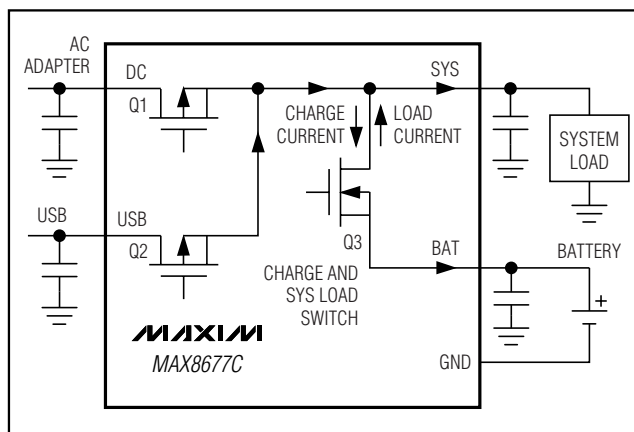

Figure 4. Smart Power Selector Block Diagram
The MAX8677C Smart Power Selector seamlessly distributes power between the external inputs, the battery, and the system load (Figure 4). The basic functions performed are:
An internal 40mΩ MOSFET connects SYS to BAT (Q3, Figure 4) when no voltage source is available at DC or USB. When an external source is detected at DC or USB, this switch is opened and SYS is powered from the valid input source through the input limiter.
The input voltage limiter is essentially an LDO regulator. While in dropout, the regulator dissipates a small I^2R loss through the 0.2Ω MOSFET (Q1, Figure 4) between DC and SYS. With an AC adapter or USB source connected, the input limiter distributes power from the external power source to the system load and battery charger. In addition to the input limiter's primary function of passing power to the system and charger loads at SYS, it performs several additional functions to optimize use of available power:
- **Input Voltage Limiting.** If an input voltage is above the overvoltage threshold (6.9V typ), the MAX8677C enters overvoltage lockout (OVLO). OVLO protects the MAX8677C and downstream circuitry from high-voltage stress up to 14V at DC and 8V at USB. In OVLO, VL remains on, the input switch that sees overvoltage (Q1, Q3, Figure 4) opens, and the appropriate power-monitor output (\overline{DOK} , \overline{UOK}) is high impedance, and \overline{CHG} is high impedance.
If both DC and USB see overvoltage, both input switches (Q1 and Q2, Figure 4) open and the charger turns off. The BAT-SYS switch (Q3, Figure 4) closes, allowing the battery to power SYS.
An input is also invalid if it is less than BAT, or less than the DC undervoltage threshold of 3.5V (falling). With an invalid input voltage, SYS connects to BAT through a $40m\Omega$ switch (Q3, Figure 4).
The total current through the switch (Q1 or Q2 in Figure 4) is the sum of the load current at SYS and the battery charging current. The limiter clamps at 4.35V, so input voltages greater than 4.35V can increase power dissipation in the limiter. The limiter power loss is $(V_{DC} - 4.35) \times I$, but not less than $I^2 \times 0.2\Omega$. Also note that the MAX8677C turns off any input that exceeds 6.9V (nominal).